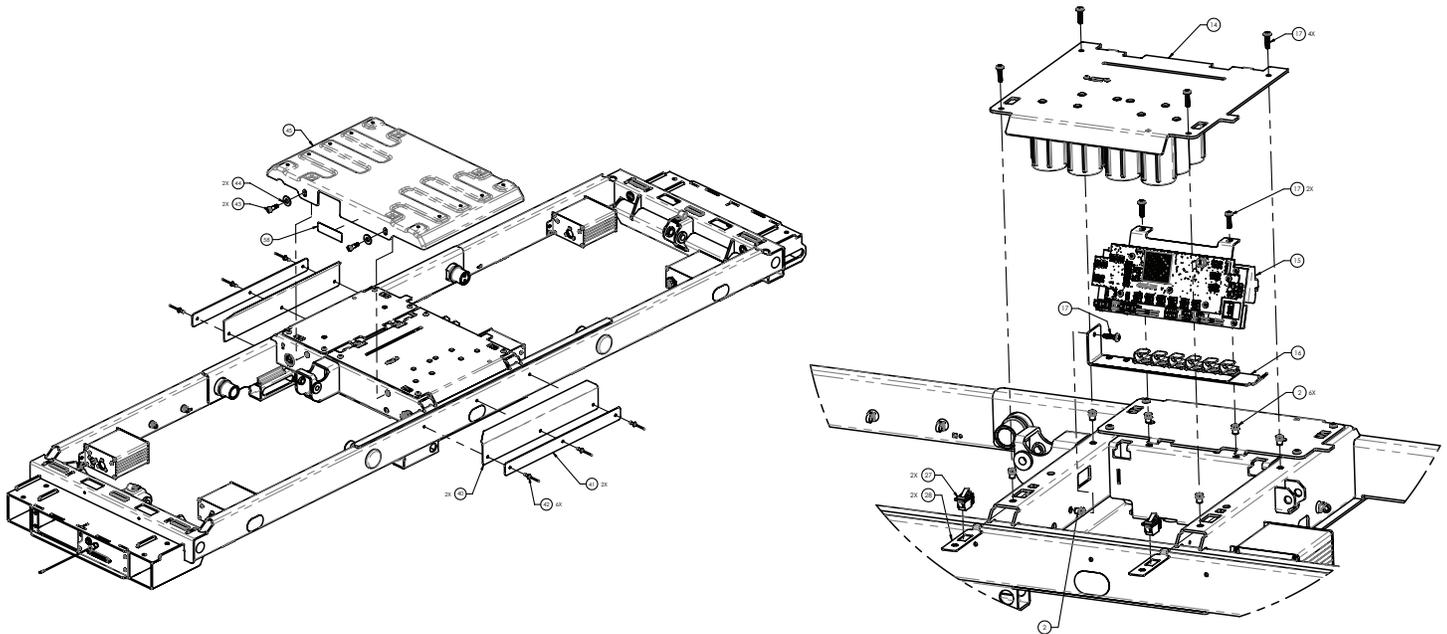

Figure 10 – MCU replacement
6. Using a 5/32" hex driver, remove and save the two screws (43) and flat washers (44) that secure the motion interrupt pan (45) to the litter frame. Remove the motion interrupt pan (45) (Figure 10).
7. Using a #2 Phillips screwdriver, remove and save the two screws (17) from the battery mounting bracket closest to the center of the bed (Figure 10).
8. Using a #2 Phillips screwdriver while supporting the battery mounting bracket with one hand, remove and save the two screws (17) from the battery mounting bracket closest to the outside of the bed (Figure 10).
13. Lift up to remove the battery mounting plate assembly (14) from the litter frame (Figure 10).
15. Using a #2 Phillips screwdriver, remove and save the two screws (17) that secure the MCU assembly to the litter frame (Figure 10).
16. Grasp the MCU mounting bracket (15) where you removed the two screws and pull down.